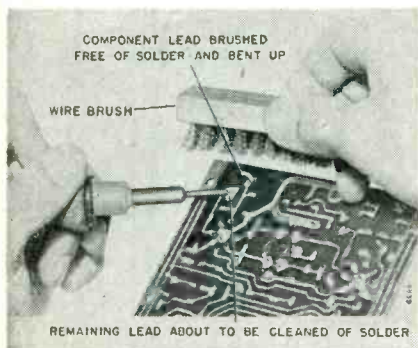

Fig. 5—Removal of component mounted in such a manner that its leads cannot be cut to free it from the board.
1. Heat the connection on the wiring side of the board with a small soldering iron. When the solder becomes molten, brush away the solder. Do not overheat the connection. See Fig. 5. A 60 watt bulb placed over the component side of the board will facilitate location of the connections on the wiring side since the board is translucent. In the process of removing the solder, caution must be taken to prevent excessive heating.